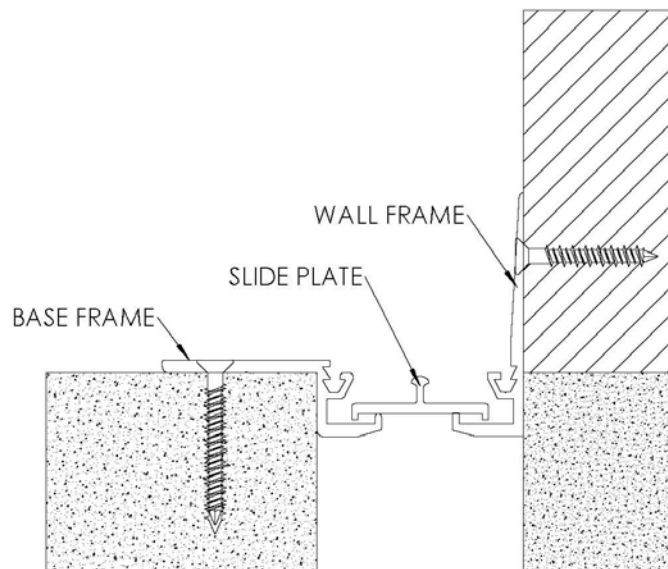

FIGURE 3
3. Place slide plate (not required on 1" joint sizes) in the lower channel of the base frame and wall frame with the bent ends of the plate pointing downwards. **See Figure 3**